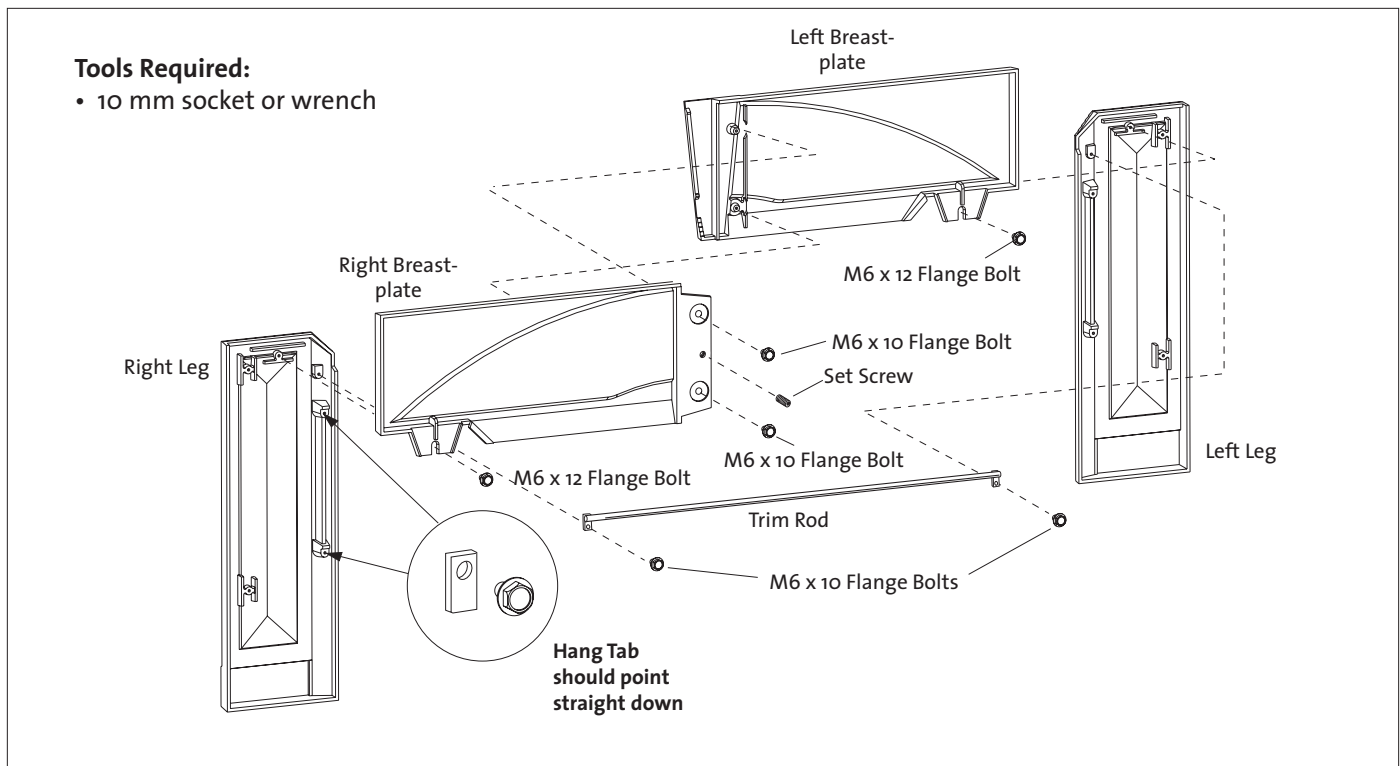

Figure 12. Kennebec Classic Surround Panel Assembly
1. Layout the parts. Place the castings face down on a protective surface such as carpeting, blankets or a sheet of cardboard. See fig. 12, page 12.
3. Attach the Leg plates. The Legs must be oriented with the Hang Tabs on the inside edges as shown in fig. 12. Use the two remaining M6 x 12 hex head flange bolts to attach the Legs to the Breastplate assembly. See Fig. 12.